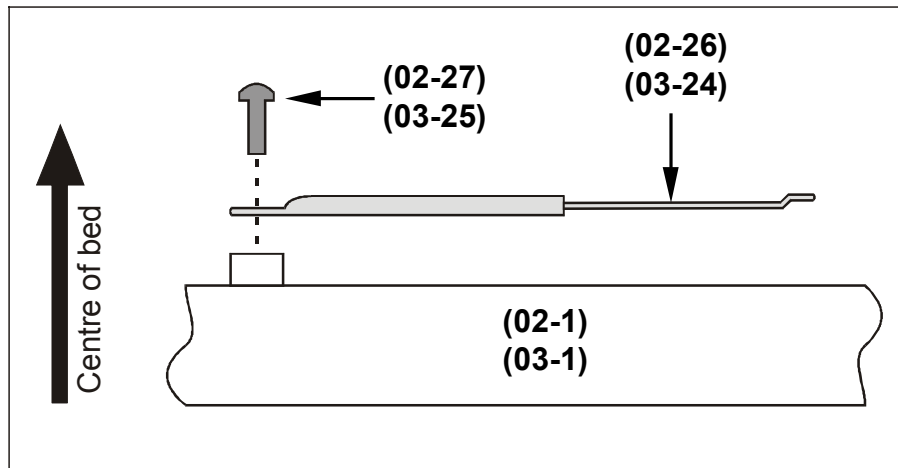

Figure 7-5 Rastomat fixing
- a) Slide the ratchet assembly (02-26)/(03-24) onto the spigot below the calf section fabrication - refer to Figure 7-5 for correct orientation. Secure with a new starlock washer (02-28)/(03-26).